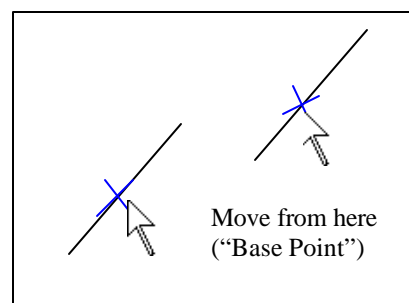

Figure 6: Moving a line
6. Move the line around a bit. Notice the cyan (bluish) line that shows you how far the line has moved. See Figure 6.